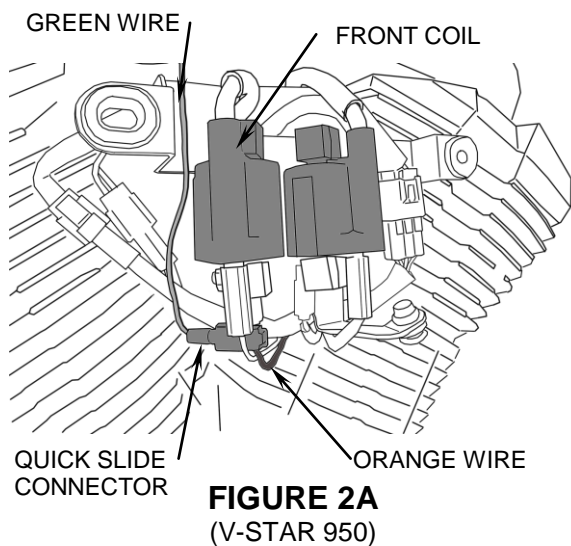

FIGURE 2A
8. Route the GREEN tachometer wire along the existing wire looms to the coil. Place a quick slide on the ORANGE coil wire and connect the tachometer GREEN wire to that splice. (See Figure 2A.)